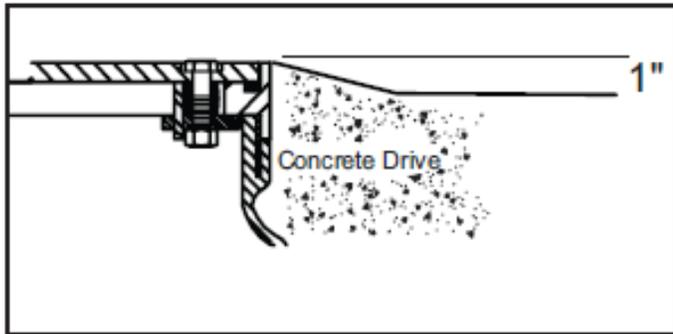

Figure 17: Concrete Slope from Cover
5. Perform final height adjustment of the manhole cover to elevated grade (approximately 1" above grade for proper run-off as in Figure 17). Make sure backfill supports the assembly so it doesn't move during the concrete pouring.